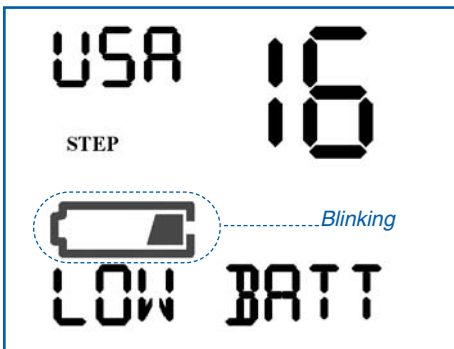

Fig. 10: Low Battery Warning Display
- When the battery capacity is very low, the low battery warning alarm will sound every 10 seconds, the low battery message **LOW BATT** will be shown on the Radio Status Display, and the battery indicator will blink. (Fig. 10)